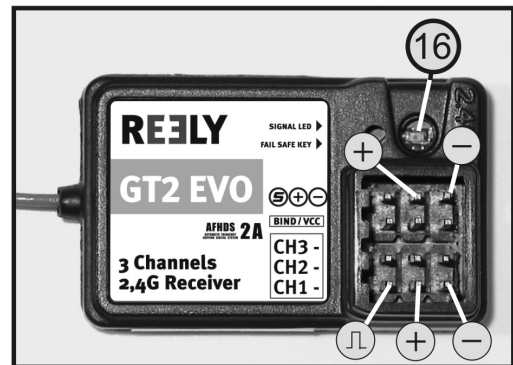

Figure 5
Switch the transmitter on and then take the receiver into operation. If transmitter and receiver are bound correctly (usually set ex works) the red control LED in the receiver lights up (see figure 5, item 16). Verify correct function of the receiver and the connected servos and then switch it off again.